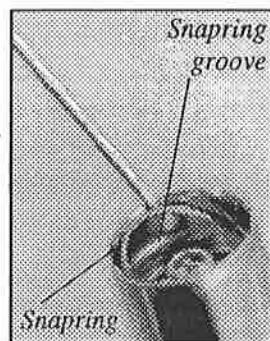

Fig. 8
11. Remove the stanchion snapping (Fig. 8).